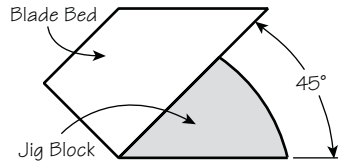

Figure 6: Jig block.
5. A drill press is necessary for drilling the holes, as is a jig block with a 45° angle on it to hold the blade bed surface at the correct angle. This jig block may be the waste piece from the body cut-out (as shown in **Figure 6**), or one made specifically for this purpose. You can use turner's tape to affix the blade bed blank to the jig block.